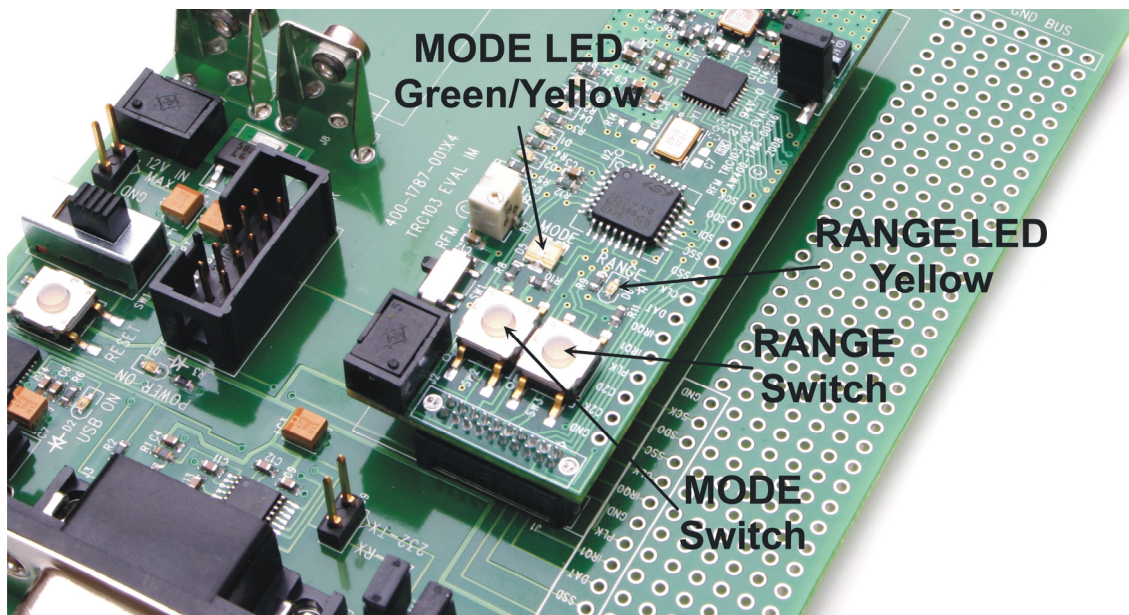

Figure 6 - Initial Testing Using Range Test Function
3. See Figure 6 below. On one board, briefly press and release the RANGE button. The RANGE LED will illuminate continuously. This is the “receiving” board.